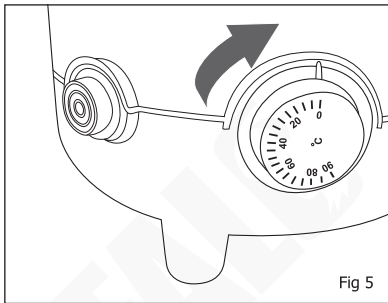

Fig 5
- Set the thermostat to the required temperature (Fig 5).